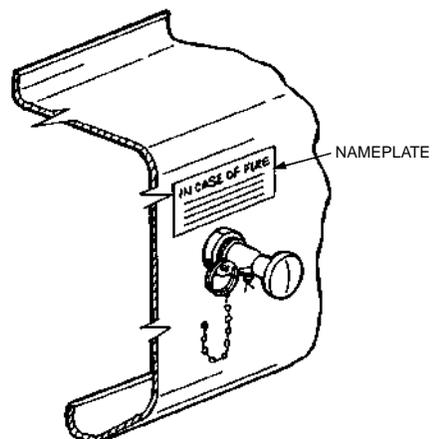

FIGURE 12
4. Affix the appropriate operating nameplate adjacent to the manual actuator and visible for attending operator. See Figure 12.
5. Make certain ring pin is inserted through the RED actuator button to ensure safe cartridge installation. See Figure 12.
6. Seal ring pin to actuator stem with visual inspection seal, Part No. 197. Make certain visual inspection seal is looped through ring pin and around actuator stem. Do not wrap seal around the boot cover. See Figure 12. **DO NOT INSTALL CARTRIDGE AT THIS TIME.**